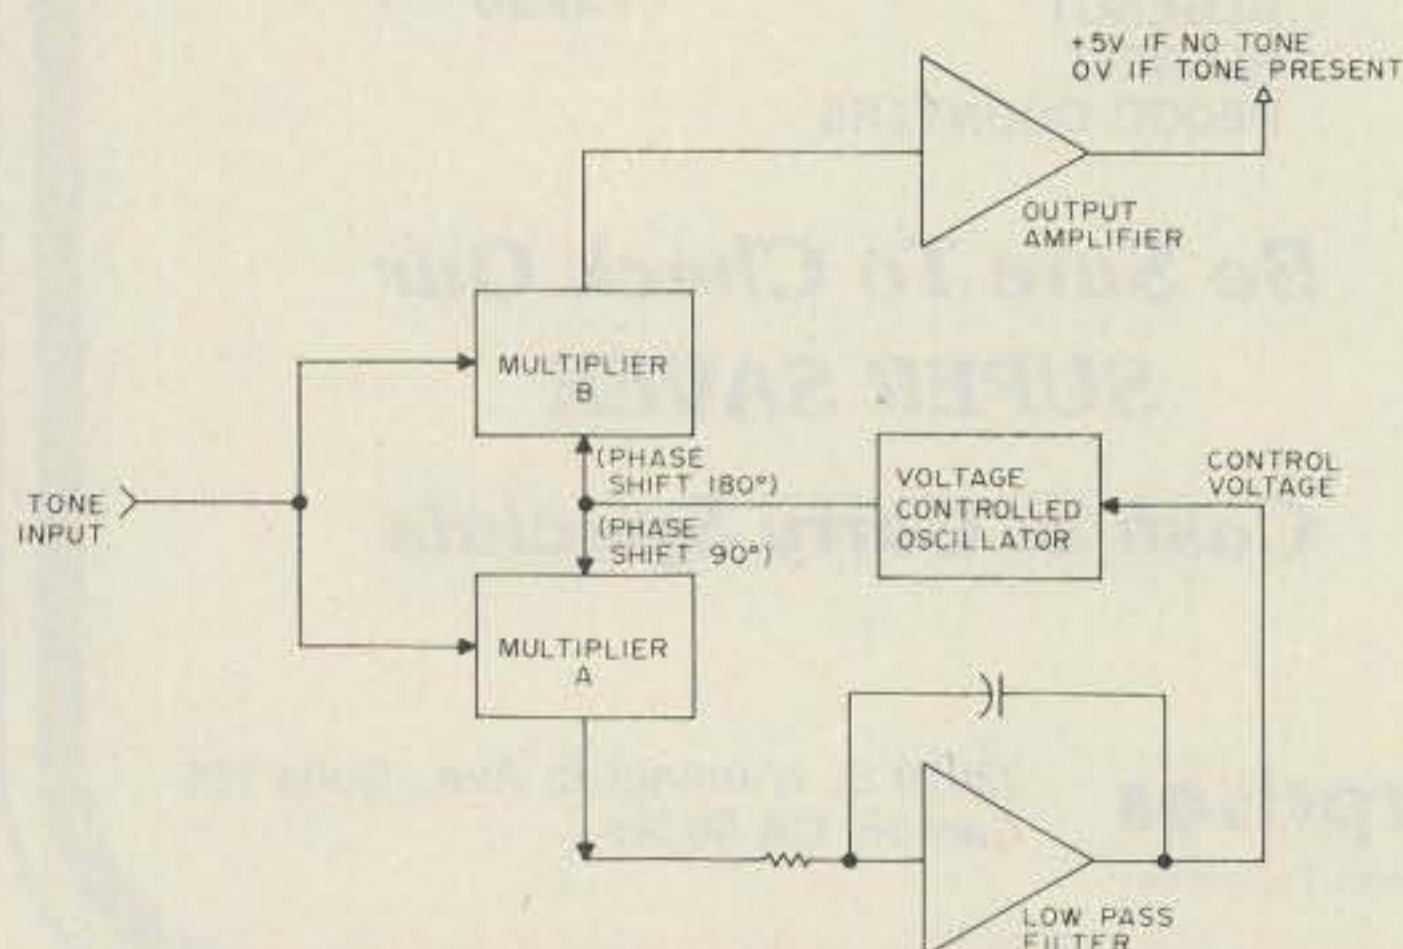

Fig. 1. NE567 block diagram.
When Mostek set out to perform the decoding with a digital chip, they faced stiff competition. Most of the decoding today is done with a circuit like the NE567, phase-locked-loop, tone-decoder chip. The chip has a voltage-controlled oscillator (vco), which will phase-lock onto tone frequencies within a small range of its free-running frequency. When the loop locks onto the incoming tone, it multiplies the incoming sine wave by the vco's output in two different multipliers. One multiplier (A in Fig. 1) output is fed through a low-pass filter to the control voltage of the vco. Any error between the vco and the incoming tone sine wave will change the dc voltage on the control input to the vco. This changes the vco's frequency to match that of the incoming tone. This locks the vco 90° out of phase from the incoming sine wave. The other multiplier (B) receives the vco output an additional 90° out of phase from the first multiplier. This will produce a large negative dc voltage at the second multiplier's output. Multiplying two sine waves 180° out of phase will produce a negative dc component. The second multiplier's output is filtered and fed to the output pin of the 567. This pin will go from +5 volts to ground when it locks onto the incoming tone.